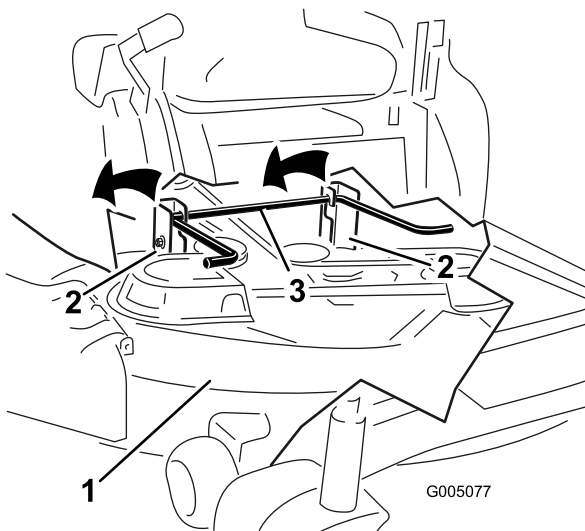

Figure 57
5. Lift the rear of the mower deck and guide the hanger brackets over the rear lift rod (Figure 57).
6. Lift the mower deck and hanger brackets clear of the rear lift rod and lower the mower carefully to the ground (Figure 57).